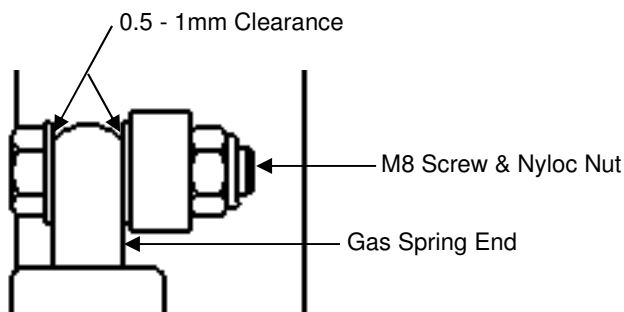

Figure 9.4.2 Gas Spring alignment clearance
- IMPORTANT!** Do not tighten Nyloc Nuts against Gas Spring ends – allow 0.5mm – 1.0mm of play to facilitate self-alignment of Gas Spring during operation. See Figure 9.4.2.